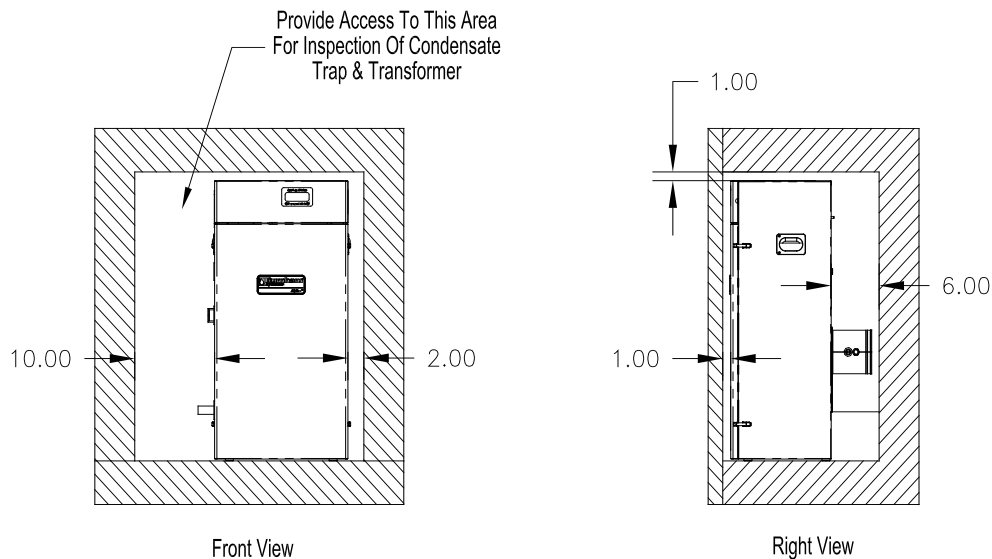

Figure 2: Clearances To Combustible and Non-combustible Material
- C. Provide clearance** between boiler jacket and combustible material in accordance with local fire ordinance. Refer to Figure 2 for minimum listed clearances from combustible material. Recommended service clearance is 24 inches from left side, front, top and rear of the boiler. Recommended front clearance may be reduced to the combustible material clearance providing: